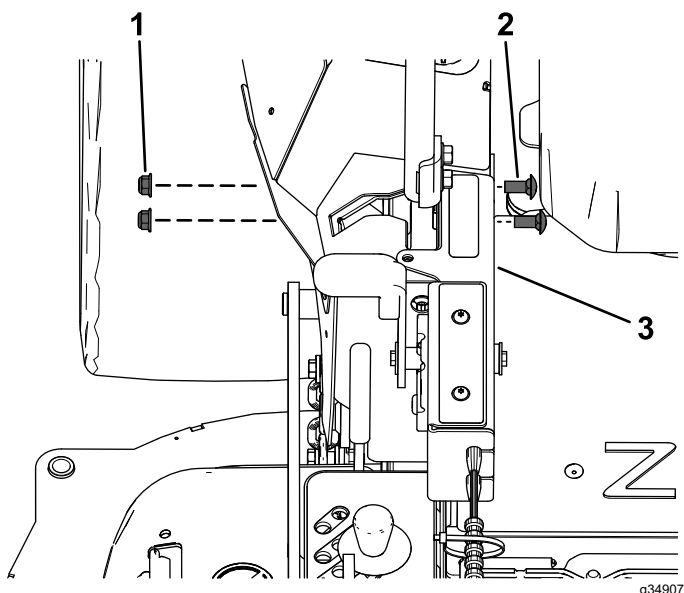

Figure 17
6. Secure the control box to the right motion-control cover using 2 carriage bolts (3/8 x 7/8 inch) and 2 locknuts (3/8 inch) as shown in Figure 17.